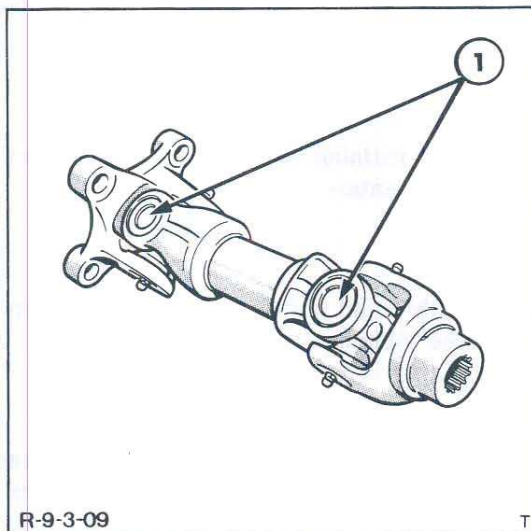

Figure 6
1. Inspect the driveshaft couplings for wear, Figure 6. If the couplings are worn they can be replaced using conventional overhaul procedures.